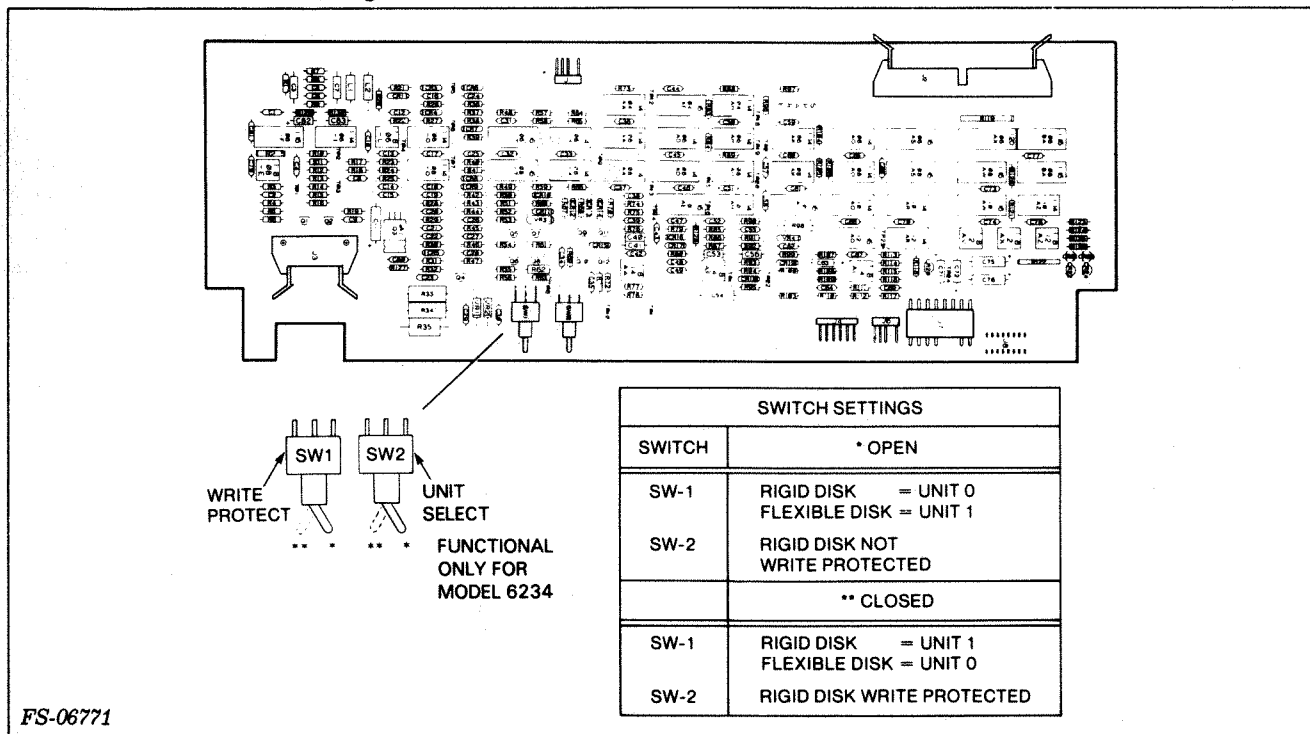

Figure 6-11. Read/Write and Clock PCB Switches
6.7.1 Power Up - Use the following procedure to power up and test the subsystem operation (reference Figures 6-11 and 6-12).
1. Remove the front dress panel and the front FR cover to expose the Unit Select and Write Protect switches located on the Read/Write and Clock PCB (Figure 6-11).